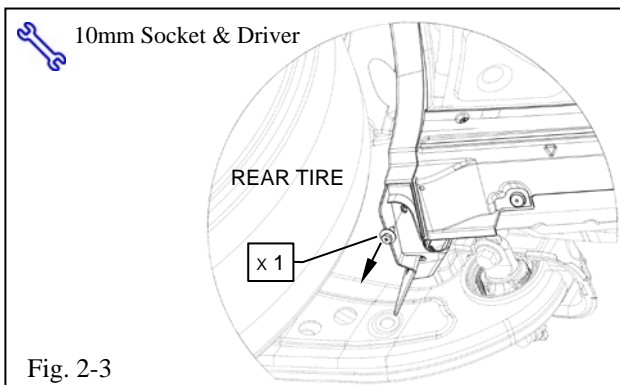

Fig. 2-3
- (d) Using a 10mm socket, remove and save the screw at the rear fender molding (Fig. 2-3).